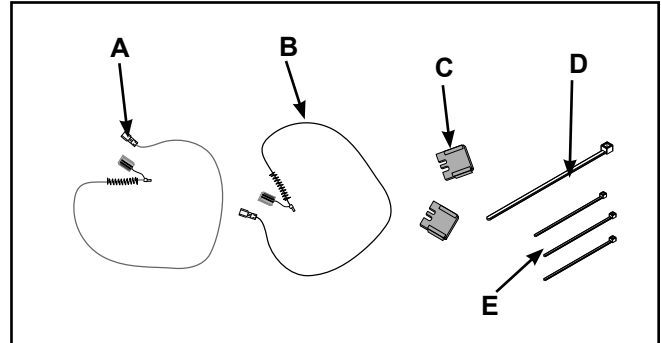

Figure 14
2. Verify the kit contents shown in Figure 14.
- A. Brush Assembly, 110 VDC, Red (1)
- B. Brush Assembly, 110 VDC, Black (1)
- C. Brush Retainer, Molded (2)
- D. Wire tie, 18", EH-12260 (1)
- E. Wire tie, 9", EH-00986 (3)